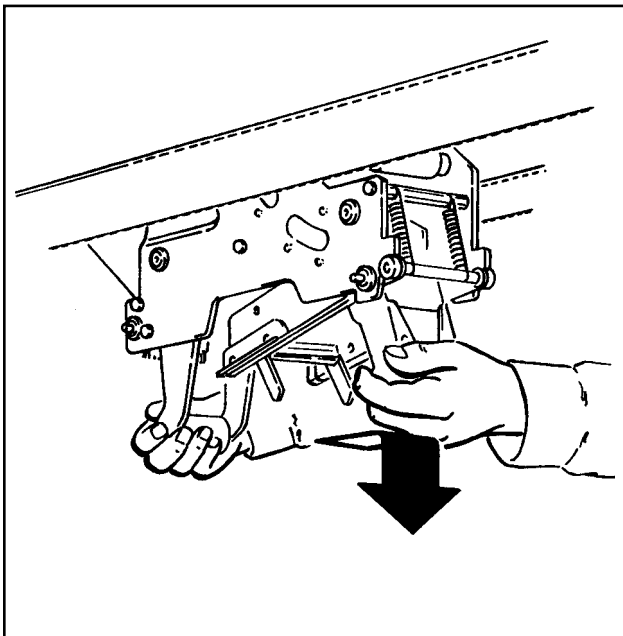

Figure 6-2 – Remove Upper Taping Head
3. Hold upper taping head applying and buffing arms from under upper assembly, slide head forward and down to remove. See Figure 6-2.